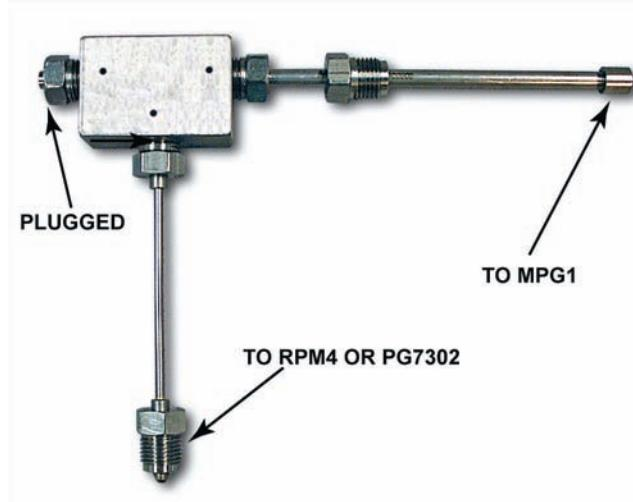

Figure 1: Two nipples installed in 3-way tee.
- ④ **Install nipples into three way tee:** Install the 5 in. nipple into the center port of the three way tee. Install either the 6 in. or 12 in. nipple into either of the end ports on the three way tee as shown in Figure 1. Tighten the nipples with a 5/8 in. wrench or crescent wrench. The thick nipple on the right connects to the MPG1. The thin nipple in the center of the plug connects to the RPM4 or to the PG7601. In Figure 1 the left port is currently plugged, but the remaining thin 5 in. nipple can go in the left port and connect to the DUT.